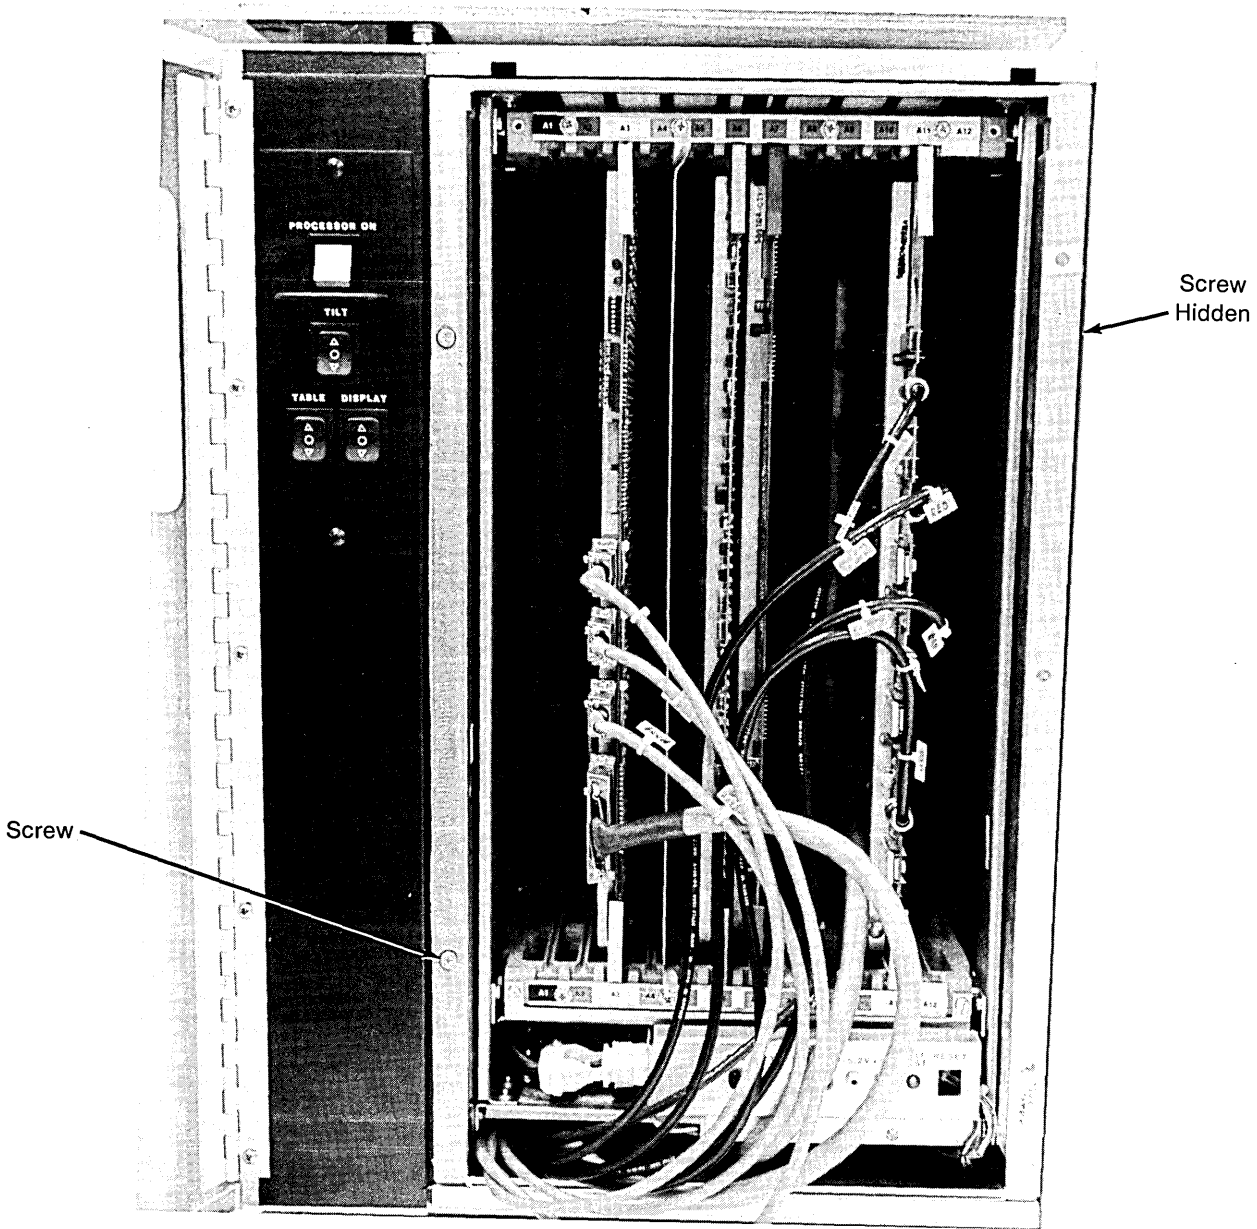

Figure 5-35. Front of Display Generator Chassis Assembly
3. See figure 5-35. Open the front door of the right pedestal assembly. Remove the four screws holding the chassis assembly; the chassis, with power supply at the rear, may then be pulled forward and out of the pedestal.